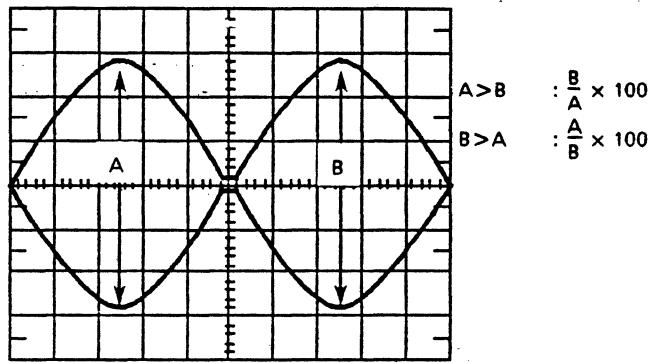

Fig. 9.3 Radial Alignment Waveforms (CATS EYE)
- (2) Step to the track specified in the Radial alignment column of Table 8.1.
- (3) Leave the oscilloscope in the same condition as mentioned in section 9.3.
- (4) Check the output waveforms for sides 0 and 1. They should appear as in Fig. 9.3.
- (5) The two waveforms should appear in the amplitude ratio in the R/A column of Table 8.1 or better.
- (6) If the specified ratio is not satisfied, loosen the two mounting screws for the stepper motor.
- (7) Move the stepper motor along the base by hand until the two waveforms assume approximately the same amplitude, and retighten the mounting screws. (See Fig. 9.3.)
- (8) Step the head outward (track 0) and inward (track 40 or 79), and confirm that the adjustment has been completed.
- (9) After the radial adjustment, be sure to confirm track 00 sensor adjustment 9.8 and carriage limiter 9.9.